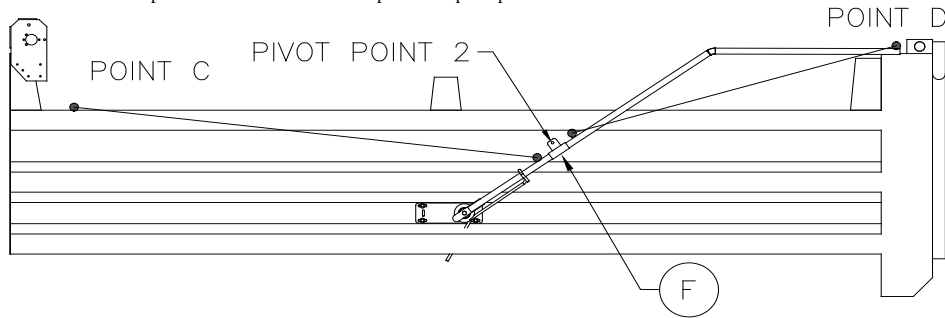

Figure 21
Measure the distance from Point C (Figure 21) to the center of the hole of the tension pivot arm bracket (F). Record this as "Distance Z". Lay the bottom tension control arm (N) on the ground with the hole facing up. Place one of the top pivot arm on the bottom tension arm so the remaining cast elbow is in line with it. Have the 1" pipe sticking up. Slide the top pivot arm along the bottom tension arm until the distance from the center of the 1" pipe to the center of the mounting hole is the same as the Distance Z.